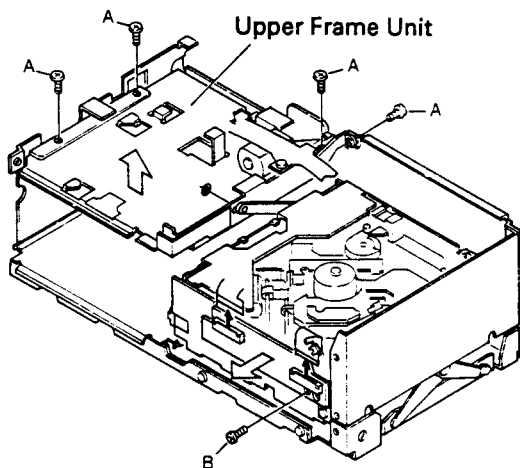

Fig. 6
5. Remove the washer. (Fig. 6)
6. Remove four screws A and detach the upper frame unit. (Fig. 6)
7. Remove screw B. (Fig. 6)
8. Disconnect the connector in two places and detach the P.C. Board. (Fig. 6)
8. Install the two connectors of the P.C. Board on the P.C. Board. (Fig. 6)
9. Install screw B. (Fig. 6)
11. Install the upper frame unit with four screws A. (Fig. 6)
12. Put the washer in place. (Fig. 6)